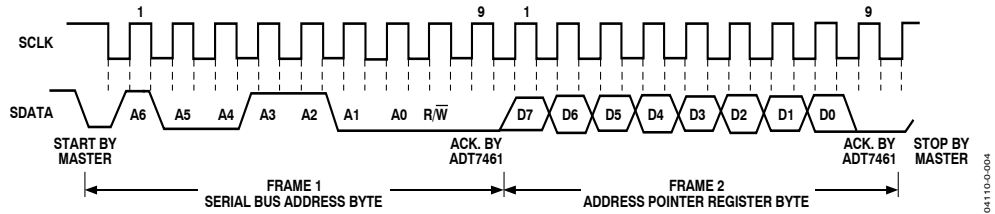

Figure 18. Writing to the Address Pointer Register Only
1. If the ADT7461's address pointer register value is unknown or not the desired value, it is necessary to set it to the correct value before data can be read from the desired data register. This is done by writing to the ADT7461 as before, but only the data byte containing the register read address is sent, since data is not to be written to the register. This is shown in Figure 18.
and the bus transaction shown in Figure 18 can be omitted.